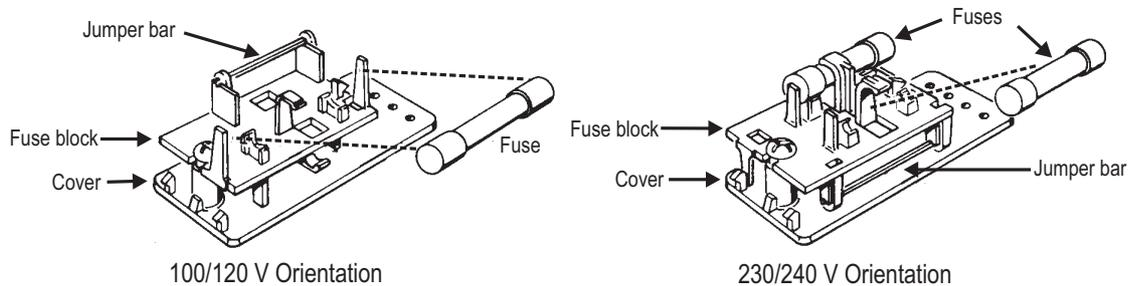

Figure 10-5 Fuse Block Orientations
You can tell which arrangement is selected by looking at the back of the Cover. If you see two fuses, the fuse block is in the 230/240 V orientation. If you see only one fuse, and a metal jumper bar, the fuse block is in the 100/120 V orientation. These orientations are shown on Figure 10-5 (page 10-5).
3. Invert the Fuse Block and reassemble it. Make sure the the Fuse Block fits into the notch on the Support Pedestal. Also be sure that the cutaway on the Fuse Block fits around the top section of the Screw Pedestal. The Fuse Block should sit flat, parallel to the Cover. Tighten the screw. Figure 10-5 shows the two fuse block orientations.